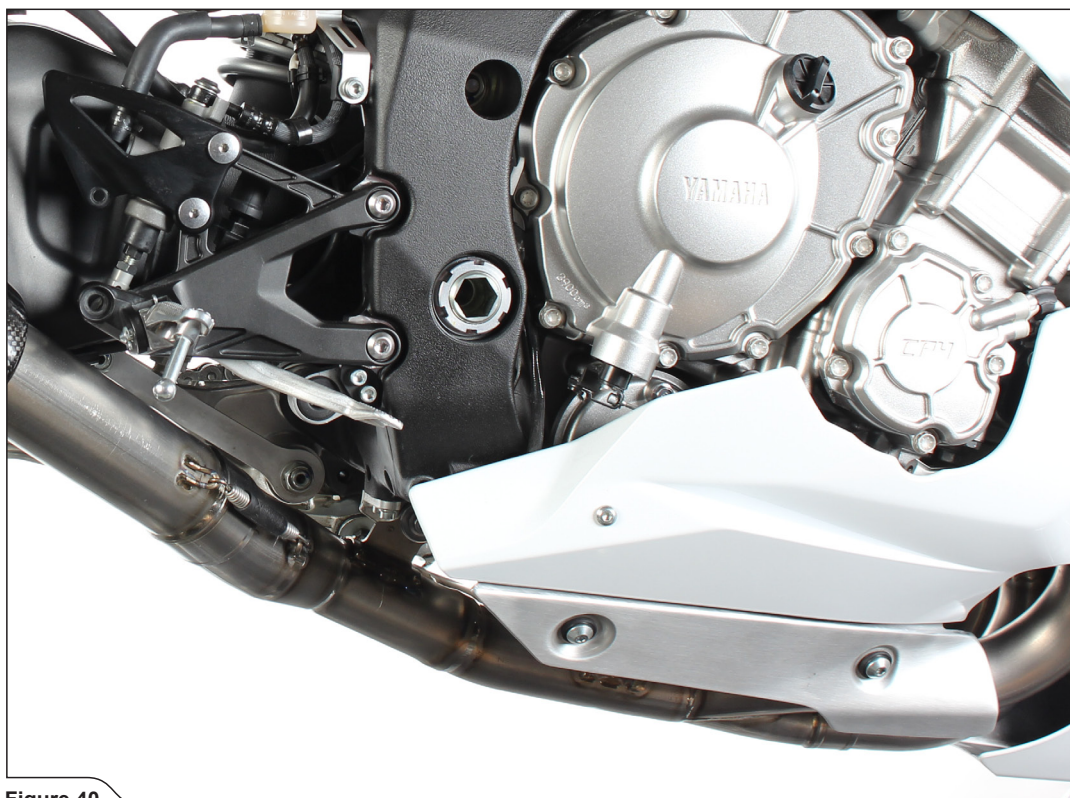

Figure 40
12. Assemble the cowlings in the reverse order from the order in which they were removed (Figure 40).